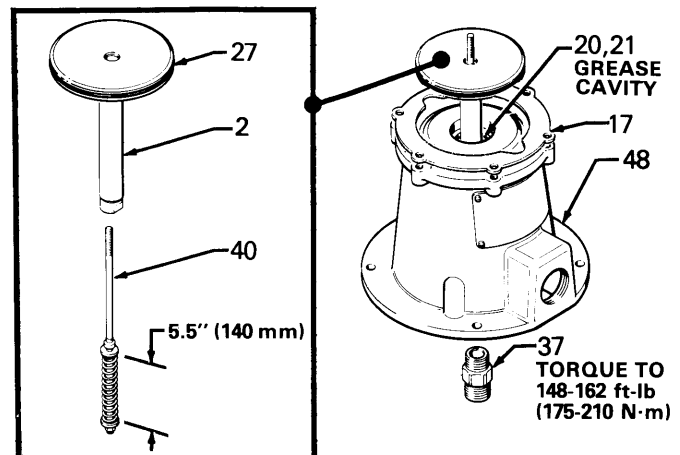
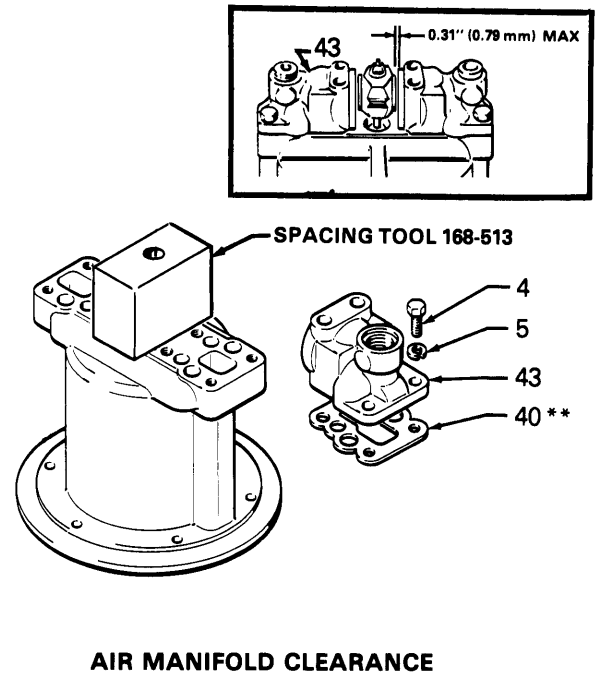

Fig 5
Fig 6
NOTE: Be sure the clearance between the shoulders of the trip rod spring guides is EXACTLY 5.5 in. (139.7 mm) whenever you install a new or used trip rod. If the clearance is different, replace the trip rod; do not attempt to adjust it. See Fig 5.
2. Grease the trip rod (50) and install it in the piston (2). Screw the adapter (37) into the piston and torque to 148-162 ft-lb (175-210 N·m).
3. Grease the cavity in the base (48) and install a washer (21*) and a v-packing (20*) so the lips of the v-packing *face up* in the base. See Fig 5.
4. Grease the piston (2), o-ring (27*), and cylinder (46). Place the cylinder upside down on a flat surface. Place the o-ring around the piston; the o-ring is larger than the piston groove. Install the piston in the cylinder so the excess of the o-ring fits into the one of the notches on the flange of the cylinder. Use your fingers to push the o-ring out of the notch and seat it in the piston groove. Push the piston into the cylinder to hold the o-ring in place.
5. Regrease the inside of the cylinder (46) and the trip rod (50). Be sure the gasket (17) is properly located on the base (48).
6. Guide the piston assembly and cylinder into the base, aligning the cylinder and base correctly. Install the lockwashers (5) and screws (7) snugly.
7. Install a backup washer (18*) and v-packing (19*) in the bearing (47) so the lips of the v-packing *face down* in the cylinder. Install the gasket (14*) on the bearing. Install the bearing in the cylinder throat. Use a 1 in. socket wrench to tighten the bearing to 65-70 ft-lb (88-95 N·m).
8. Install the dampener pad (26) and washer (25) in cylinder throat.
9. Place the air valve spacer tool (order part no. 168-513) on the cylinder. Position the gaskets (40*) and manifolds (43) on the cylinder. Install the screws (4) and washers (5). See Fig 6. Remove the tool.
12. Install an o-ring (15*) on each director valve (39). Grease the director valves and springs (24) and place in each side of the air valve housing. Hold the parts in at the top and carefully rotate the valve housing until it slides down between the manifolds. ***Be very careful not to pinch your fingers!***
13. Recheck the clearance by holding the air valve spacer tool up close to the manifolds. Refer to Fig 6.
14. Grease the plunger (28) and guide (32) and install them with the spring (33) into each side of the detent housing (36). *Loosely* screw a retainer (31) into each side of the housing.
15. Install the dampener pad (26) and washer (25) in the bottom of the detent housing. Grease and assemble the axles (85) and rollers (86) and install them in the detent housing.
16. Position the detent housing on the manifolds and loosely install the washers (9) and screws (3). Now finish tightening the retainers (31) simultaneously. Finally, tighten the screws (3) firmly.